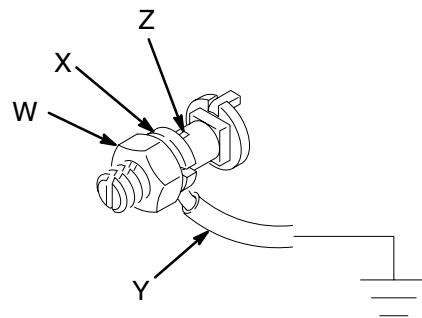

Fig. 1
2. *Displacement pump and reciprocator drive section:* Use a ground wire and clamp, as shown in Fig. 1. The power supply's ground wire to the electric motor **does not** provide grounding for the pump and drive section.
Loosen the grounding lug locknut (W) and washer (X). Insert one end of a 1.5 mm² (12 ga) minimum ground wire (Y) into the slot in lug (Z) and tighten the locknut securely. See Fig. 1. Connect the other end of the wire to a true earth ground. Order Part No. 237569 Ground Wire and Clamp.